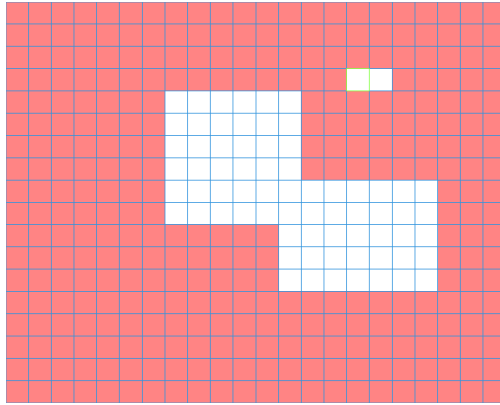

Figure 6-60
- Region: Click select button, the interface is shown as in Figure 6-60. Here you can set motion detection zone. There are 396(PAL)/330(NTSC) small zones. The green zone is current cursor position. Grey zone is the motion detection zone. Black zone is the disarmed zone. You can click Fn button to switch between the arm mode and disarm mode. In arm mode, you can click the direction buttons to move the green rectangle to set the motion detection zone. After you completed the setup, please click ENTER button to exit current setup. Do remember click save button to save current setup. If you click ESC button to exit the region setup interface system will not save your zone setup.
In Figure 6-60, you can left click mouse and then drag it to set a region for motion detection. Click Fn to switch between arm/withdraw motion detection. After setting, click enter button to exit.